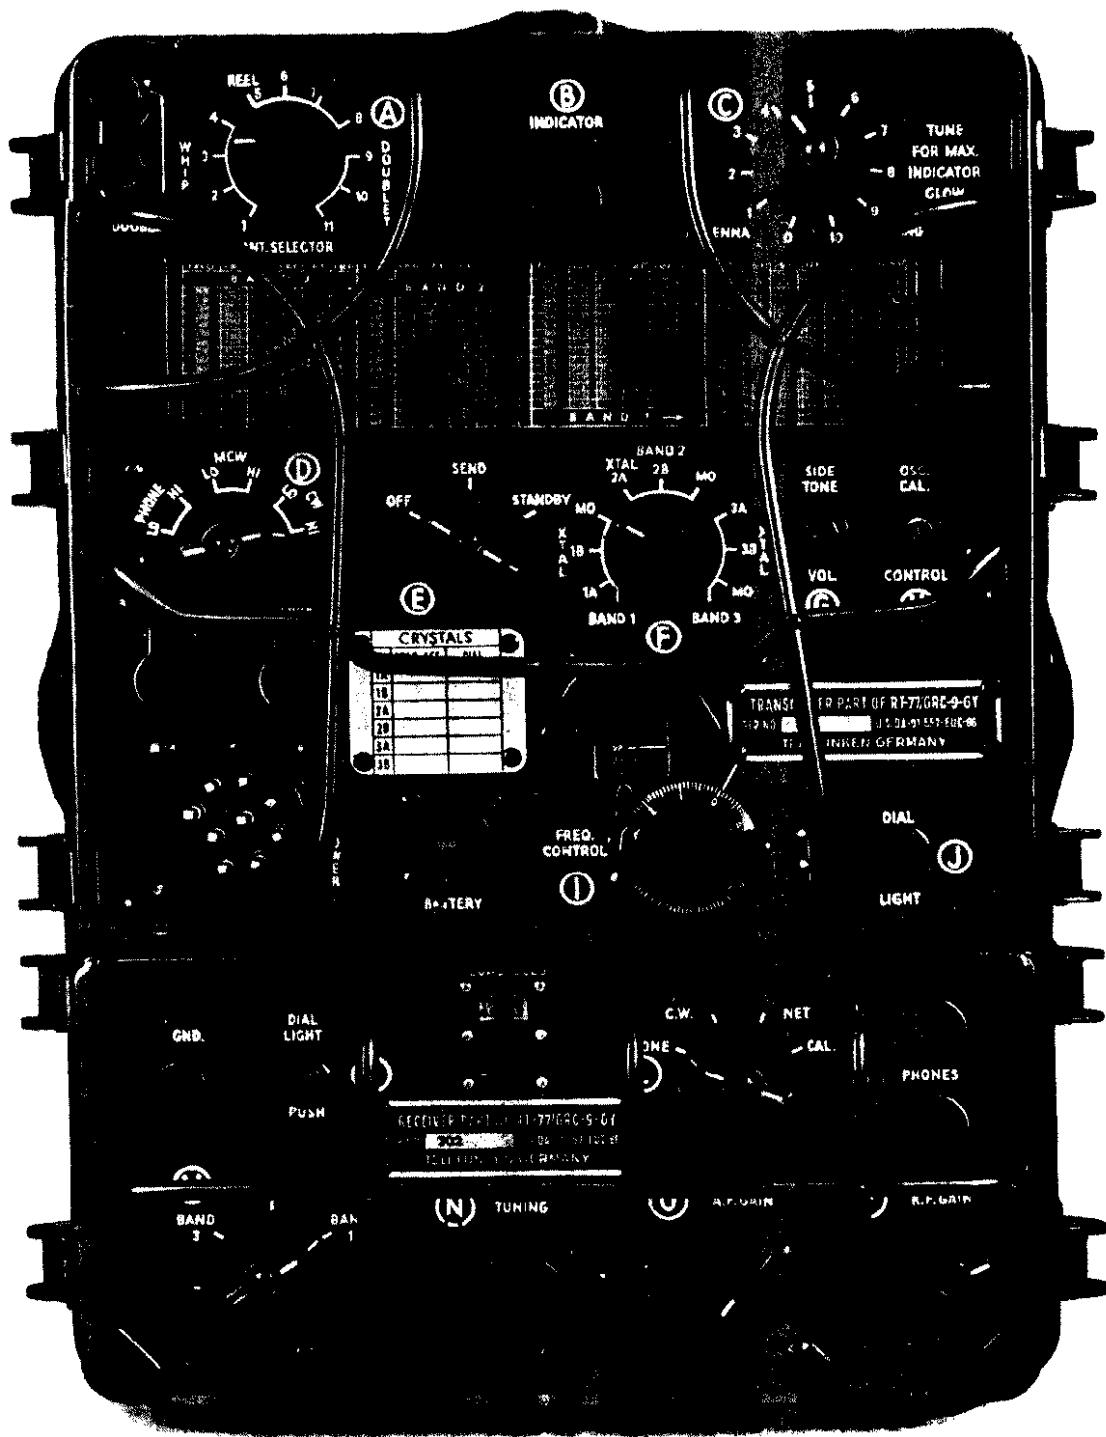

Figure 10. Receiver-transmitter RT-77/GRC-9-GY.
a. The receiver-transmitter (fig. 10) consists of a complete separate receiver unit and a complete individual transmitter unit. The units are mounted in a metal case having a tight fitting metal cover which is removed for operation of the set.